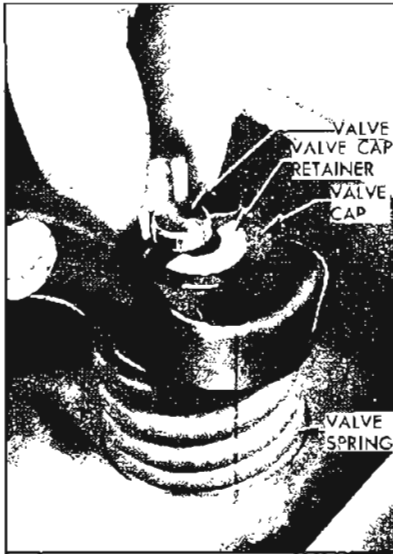

Figure 2-19—Removing Valve Cap Retainers
2. Using suitable spring compressor, such as J-8062, compress valve spring and remove cap retainers. Release tool and remove spring and cap. See Figure 2-19.